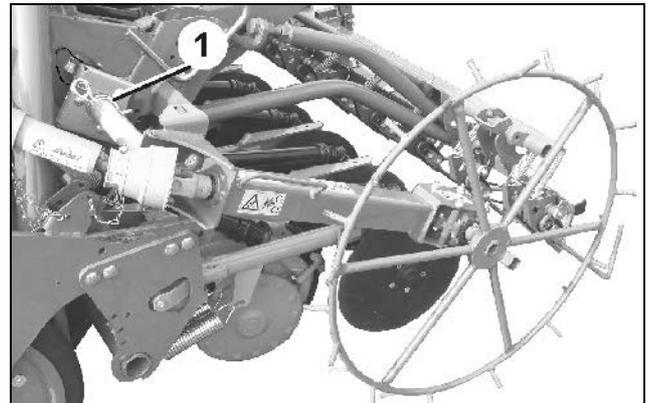

Fig. 24
- Lower the star wheel and secure using a lynch pin (Fig. 24/1).